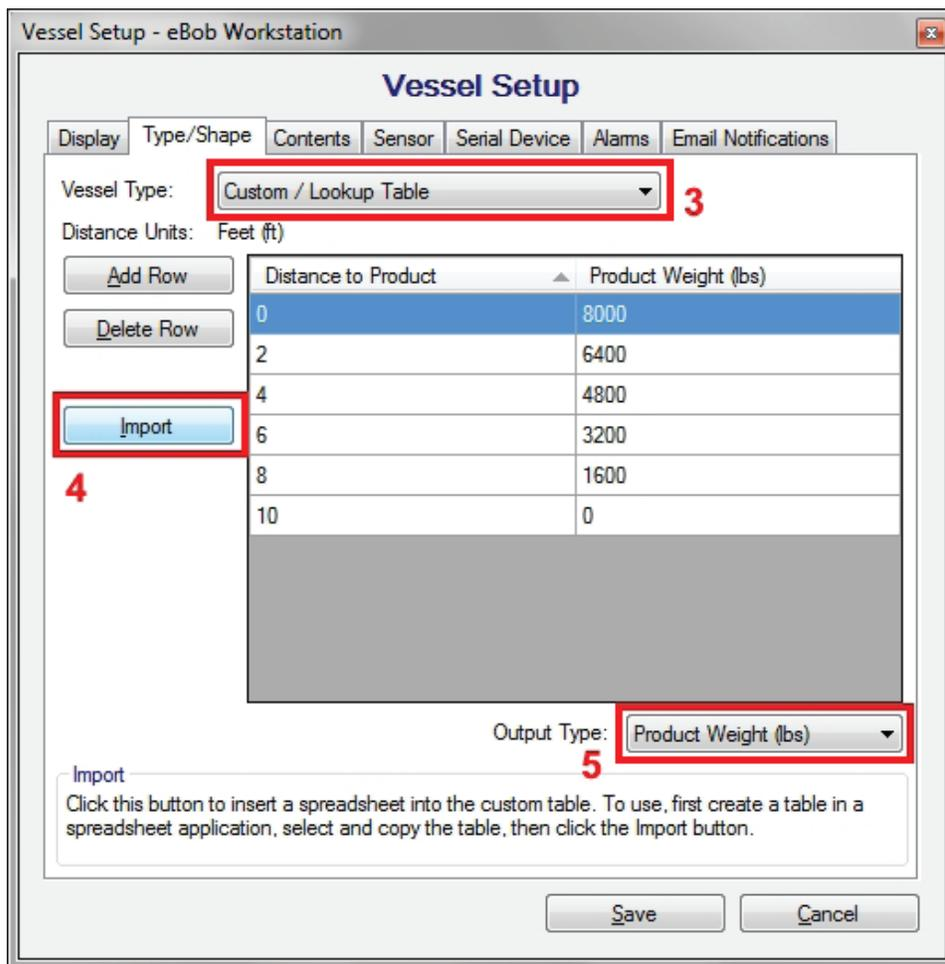

Figure 22
3. Referring to Figure 22, switch to eBob Workstation and select Custom / Lookup Table for the vessel type on the Type/Shape tab of Vessel Setup.